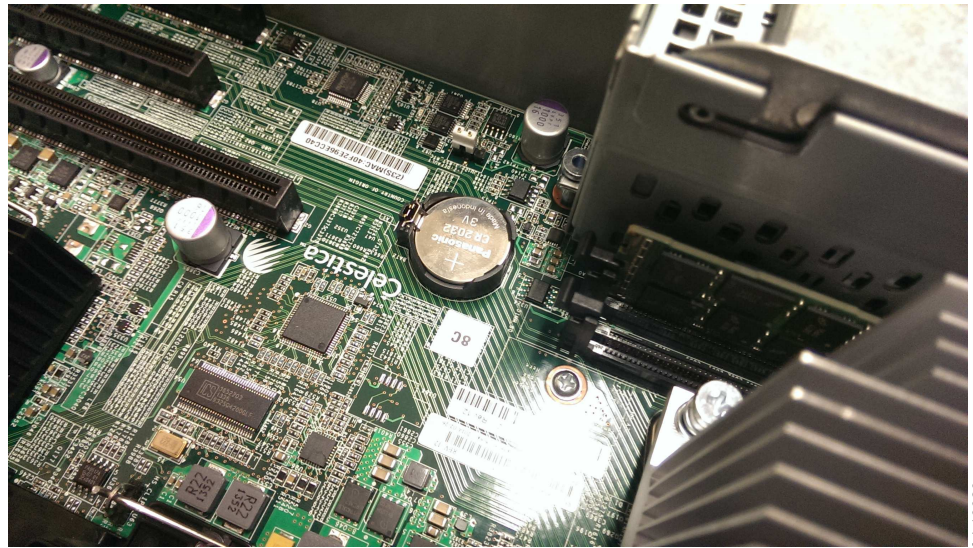

Figure 119. Replacing a CMOS Gen2 battery
3. Locate the CMOS battery inside the node canister.. See Figure 119 on page 375